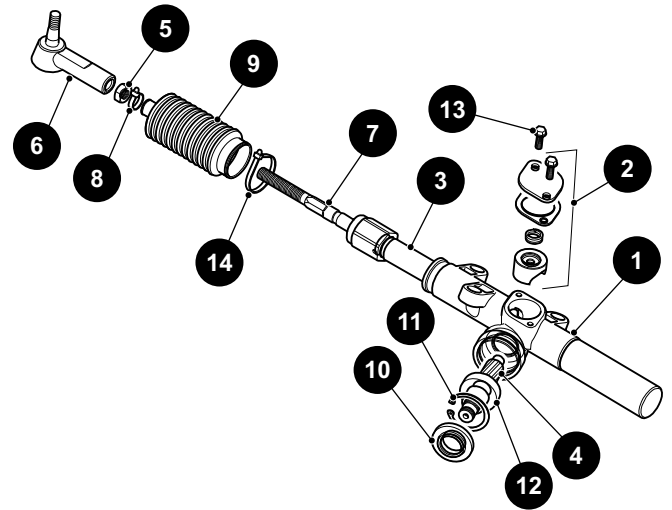
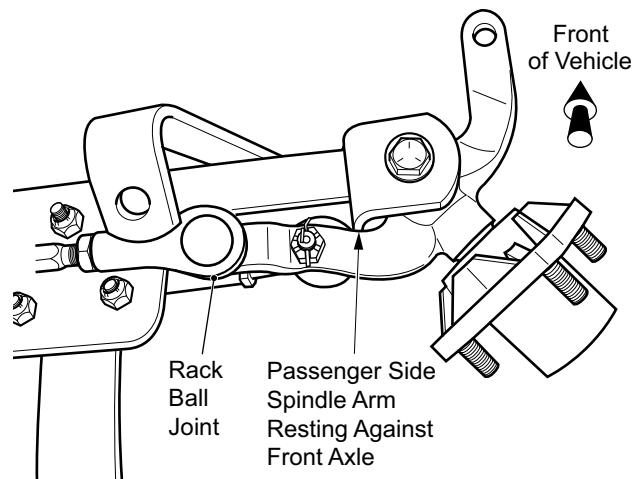

Figure 17 Rack and Pinion Unit Disassembly
Figure 18 Spindle Contact with Front Axle
2. Disassemble rack and pinion unit (1) by first removing screw (13) and tensioner (2) to relieve pressure on rack (3) and pinion (4) (Ref. Figure 17). Loosen jam nut (5) and remove rack ball joint (6) from rack extension (7). Cut wire ties (8, 14) securing bellows (9) and slide bellows off rack extension. Pull rack (3) from unit (1). Remove pinion seal (10). See the *Pinion Seal Replacement* on page 57 Remove internal retaining ring (11) from rack and pinion unit and pull out pinion (4) and ball bearing (12) as an assembly.
Check for proper rack extension-to-rack and pinion unit clearance by first turning steering wheel fully to the right. The rear spindle arm on the passenger side **must rest against** the front axle (Ref. Figure 18). If it does not, all adjustment is made at the rack ball joint (6) (Ref. Figure 17). Loosen jam nut (5) at rack ball joint and use wrench to thread shaft of rack extension (7) further into rack ball joint. This will provide more travel for the steering wheel to be turned to the right.